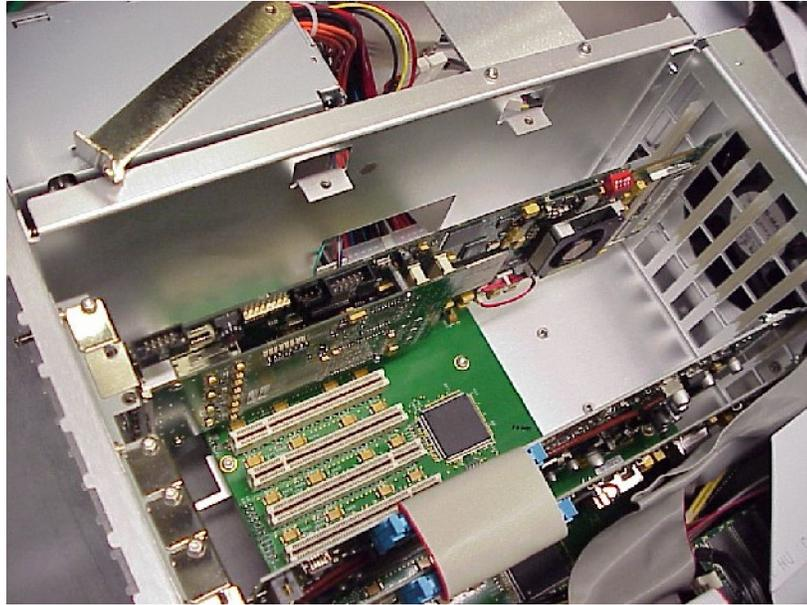

Figure 7: Gigabit Ethernet module in place
3. Align the Gigabit Ethernet interface module over the slot 2 connector, with the card edge engaged in the slot 2 card guide, and slide the module down into slot 2 (see Figure 7).
4. Press down firmly to engage the module into the connector (see Figure 7).